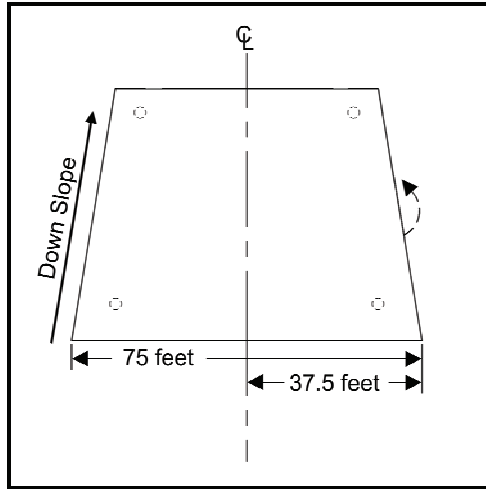

Figure 3. First 7 1/2 foot fold.
1. Fold one of the 73 foot edges over 7 1/2 feet (Figure 3).